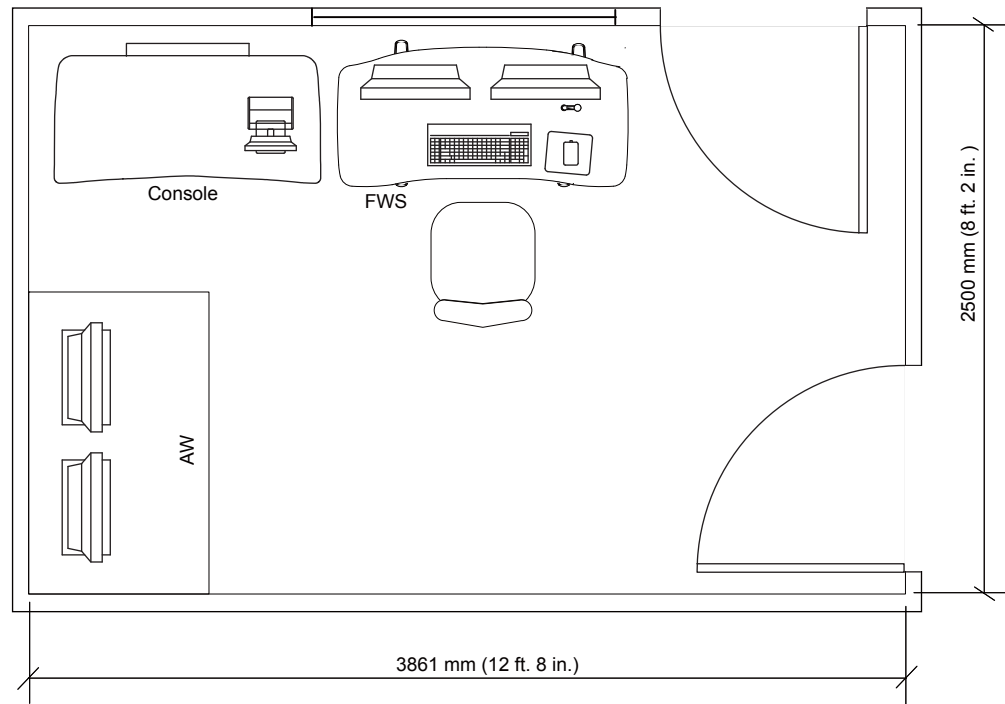

Figure 4-6 Typical Control Room Layout with Freedom Workspace (FWS)
The console does not present an exposed live parts hazard. However, a minimum working space depth of 1219.2 mm (48 in.) and full width of the console be maintained at all times for service activity. Additionally sufficient space needs to be provided for repositioning of the console and side clearance for rear service access. Egress as well as other service requirement shall be considered when siting the console. See Figure 4-6 for a typical control room layout.
- Console with FWS: Console + Freedom Workspace Table (See Figure 4-6).